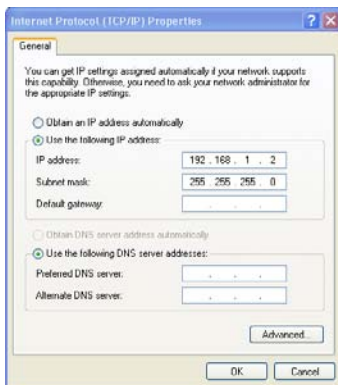

Figure 38: Internet Protocol (TCP/IP) Properties Window
6. Select Use the following IP Address, and fill in the details as shown in Figure 38.